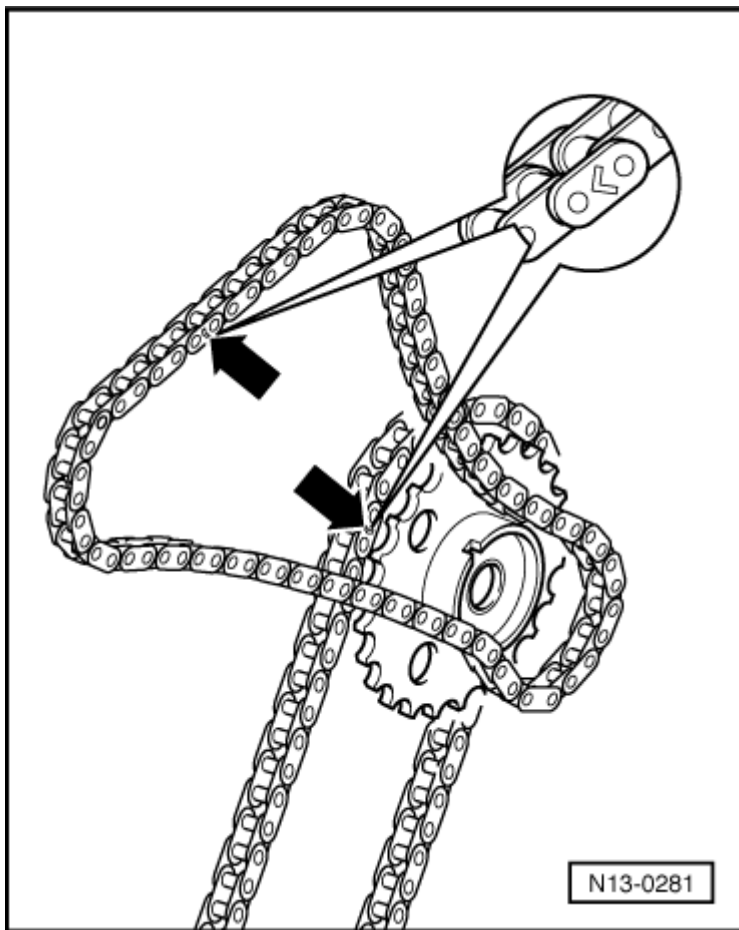

Fig. 6: Identifying Marks On Roller Chains
- Mark the direction of rotation before removing (installed position). Refer to **Fig. 6**.
- For the oil pump timing chain -item 17-.
- For the guide rail -item 18-.